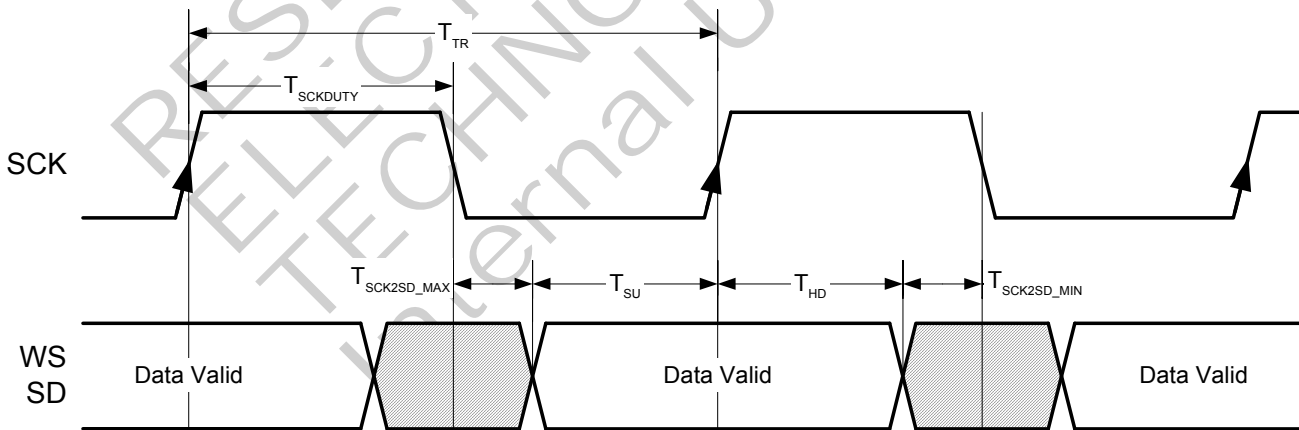

Figure 16. I²S Output Timings
1. Refer to Figure 16. Meets timings in Philips I²S Specification.
Valid serial data is available at T_{sck2sd} after the falling edge of the first SCK cycle, and then captured downstream using the active rising edge of SCK one clock period later. The setup time of data to SCK (T_{su}) and hold time of SCK to data (T_{hd}) are therefore a function of the worst case SCK-to-output data delay (T_{sck2sd}). Figure 16 illustrates this timing relationship. Note that the active SCK edge (rising edge) is shown with an arrowhead. For a falling edge sampling clock, the logic is reversed.